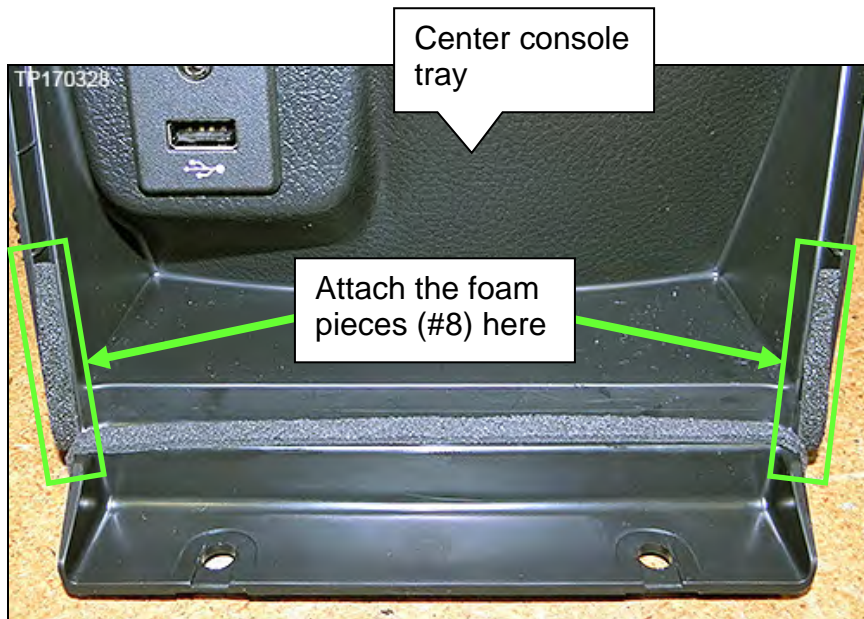

Figure 4C
2. Attach two (2) foam pieces (foam piece #8) one at a time to the center console tray where shown in Figure 4C as follows: